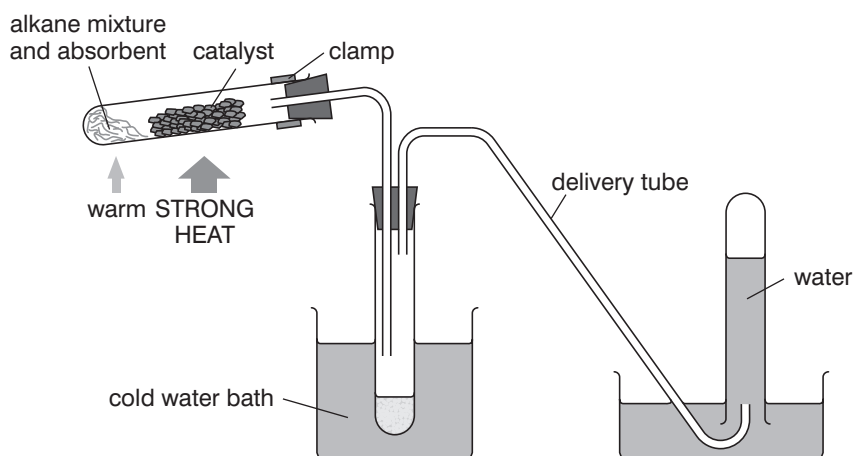

Figure 1 Apparatus for cracking a mixture of alkanes
- 1 Set up the apparatus as shown in Figure 1. The reaction tube should be at about 10° to the horizontal. Make certain that the bungs fit tightly.